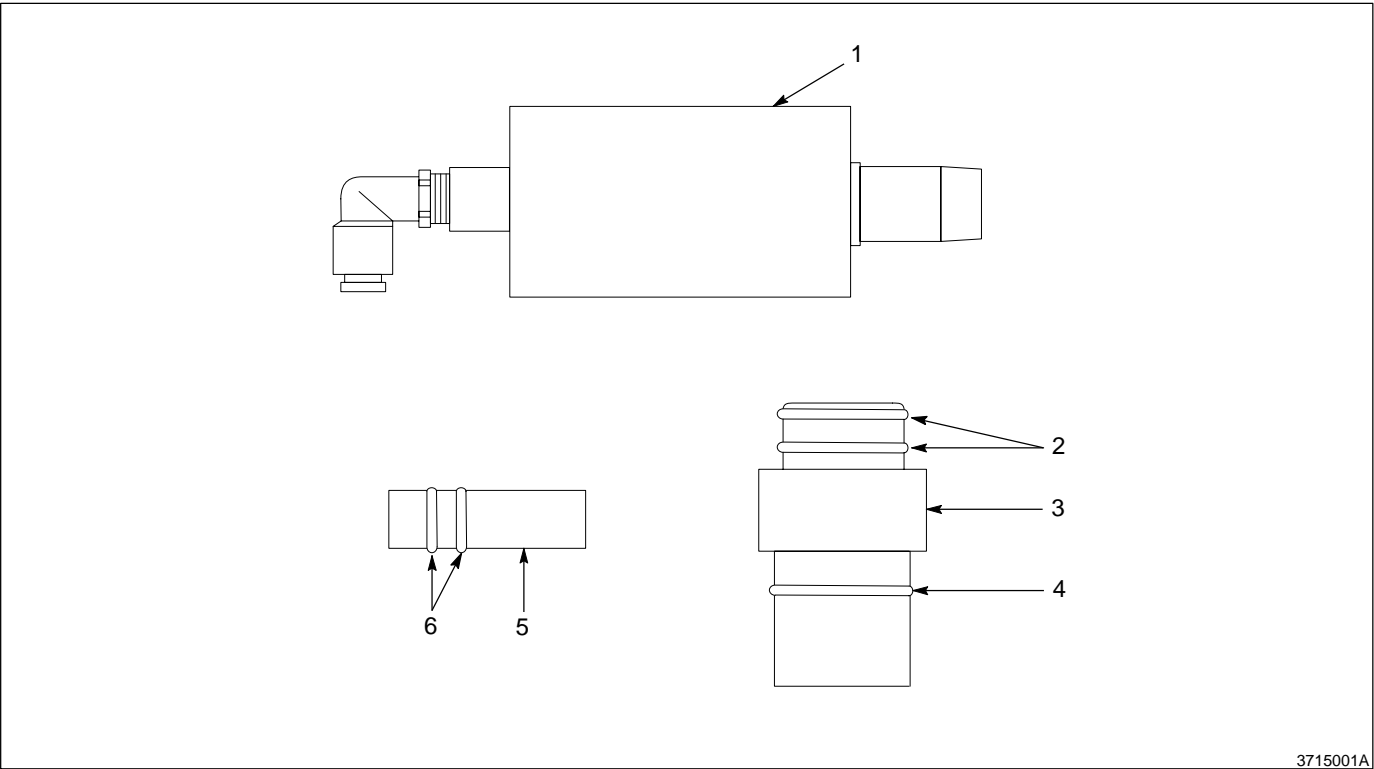

Fig. 1    Kit Components
4. See Figure 1. Install the pump (1) on the adapter (3). Reconnect the air tubing and powder feed hose to the pump.
See Figure 1.